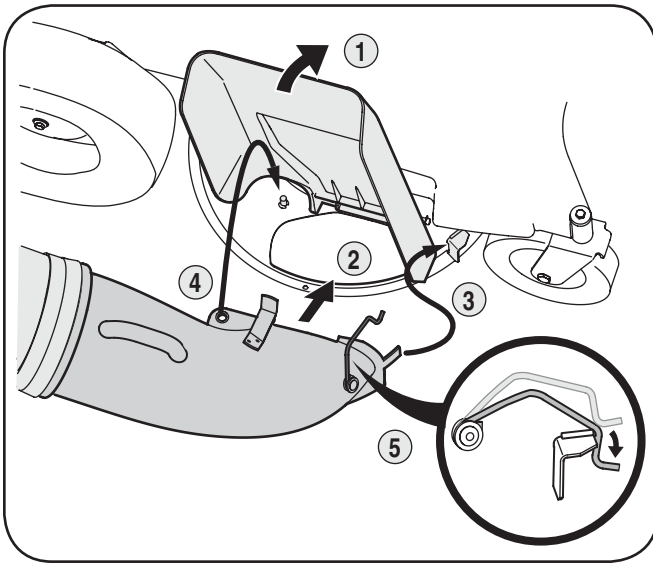

Figure 14
5. Shut the engine off and disconnect spark plug. Pivot the chute deflector upward. See Fig. 14.
7. Place the bottom lip of the chute/grass bag assembly into the lip on the deck. See Fig. 14.
8. Place the tab of the chute/grass bag assembly into the bracket on the deck. See Fig. 14.
9. Lift chute/grass bag to position hole in chute over stud on the deck. The bracket on the chute will hold the chute deflector into an upright position. See Fig. 14.
10. Push the latch over the bracket on the deck. See Fig. 14.